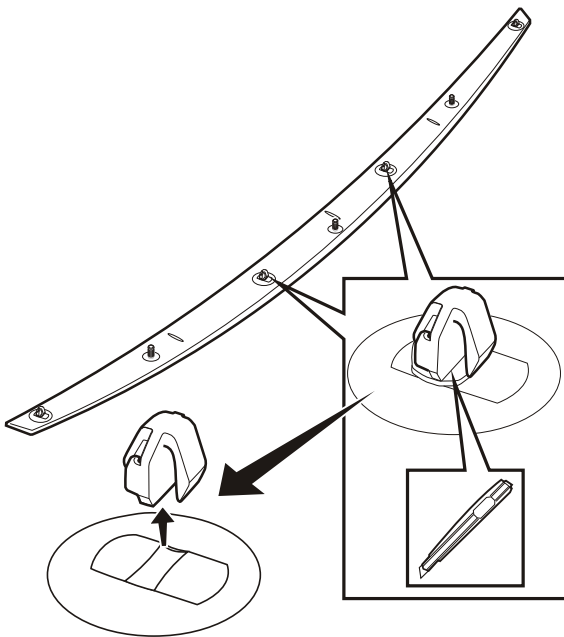

FIGURE 4
8. Remove the two clip heads that are closest to the centre of the lip spoiler by scoring the stem of the clip at the base on both sides and use pliers to break the clip head off. Ensure that the remaining surface is flat or concaved once the top section is removed. Refer to figure 4.